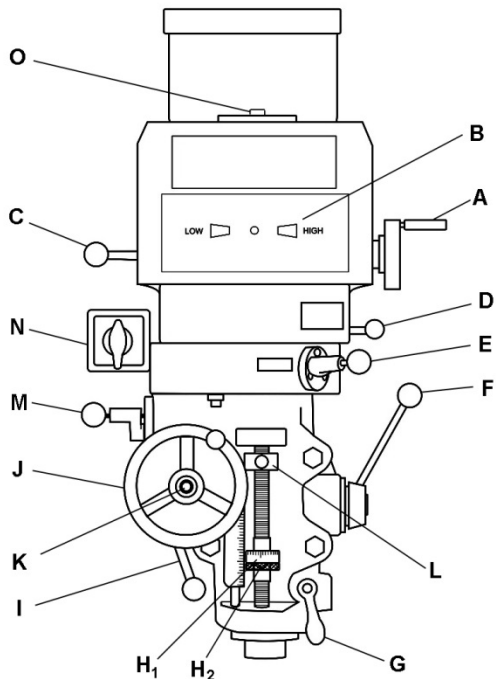
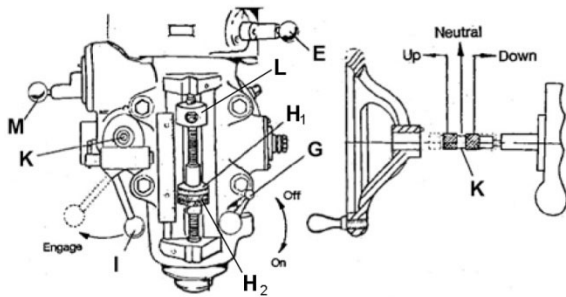

Figure 5: Controls
Figure 8: Manual feed controls
2. Apply upward pressure on motor by hand to relieve pressure on worm mechanism, and use supplied wrench to turn worm nut (B, Figure 8) and raise head to upright position.
Refer to Figure 5.
- A. **Variable speed control** (A, Figure 5) – located on right side of head assembly. Turn clockwise or counterclockwise to adjust spindle speed.
- F. **Coarse feed handle** (F) - located on right side of head. Used for non-precision drilling operations and for moving quill to a specific depth. Rotate clockwise to lower spindle. A return spring will retract spindle automatically once handle is released.
- G. **Quill lock** (G) - located on right side of head. Rotate handle clockwise to lock quill in desired position. Rotate handle counterclockwise to release.
- I. **Feed trip control lever** (I) - located on left side of head. Engages overload clutch on pinion shaft when lever is positioned to the left. Stays engaged until quill stop comes into contact with micrometer adjusting nut (forcing feed control lever to drop out automatically), or until lever is released manually by positioning lever to the right.
- J. **Manual feed handwheel** (J) – located on left front of head. Feed direction control knob (K) must be in neutral position. The feed control lever (I) must be engaged. **Note:** Manual feed handwheel may be taken off when not in use.
- K. **Feed direction control** (K) – located in center of manual feed handwheel. Position of knob depends upon direction of spindle rotation. If boring with right hand cutting tools, pull feed knob towards operator until
clutch becomes engaged. Neutral position is between forward and reverse position. (Refer to Figure 8 and accompanying text for further detail.) If control does not engage easily, move handwheel (J) back and forth to aid engagement.
To change from high to low speed range, push in lever (D, Figure 5) and rotate it almost 180 degrees. Lever will stay in position once pressure is released.
Refer to Figure 8.
1. Disengage automatic feed by pulling out knob (E, Figure 8) and moving lever to the right hole.
2. Position feed reversing knob (K) to the center, or neutral, position.
3. Engage feed trip lever (I) by pulling away from the head assembly.
4. The quill can now be moved up or down by turning handwheel (J, Figure 5).
3. Disengage feed trip lever (I) by pushing towards head assembly.
4. Use coarse feed handle (F, Figure 5) to move the spindle.
Refer to Figures 5 and 8.
2. Tighten quill lock (G, Figure 8).
3. Screw the micrometer nut (H₁) against quill stop (L), and tighten micrometer jam nut (H₂).
4. Loosen quill lock (G).
1. Ensure quill lock (G, Figure 8) is loosened by rotating counterclockwise.
2. Set micrometer nut (H) to desired depth.
3. Engage auto feed lever by pulling out lock knob (E) and moving lever to the left hole.
4. Select feed direction by setting feed direction knob (K) position per Table 2.
5. Select feed rate from feed selector knob (M) 0.0015", 0.003", and 0.006" per spindle revolution. It is easier to change feed rate while the spindle is turning.
6. Engage feed trip lever (I, Figure 8) by pulling away from head assembly.
3. Screw micrometer nut (H₁) against quill stop (L), and tighten micrometer jam nut (H₂).
4. Loosen quill lock (G), and engage auto feed lever (E).
5. Choose downfeed rate (M).